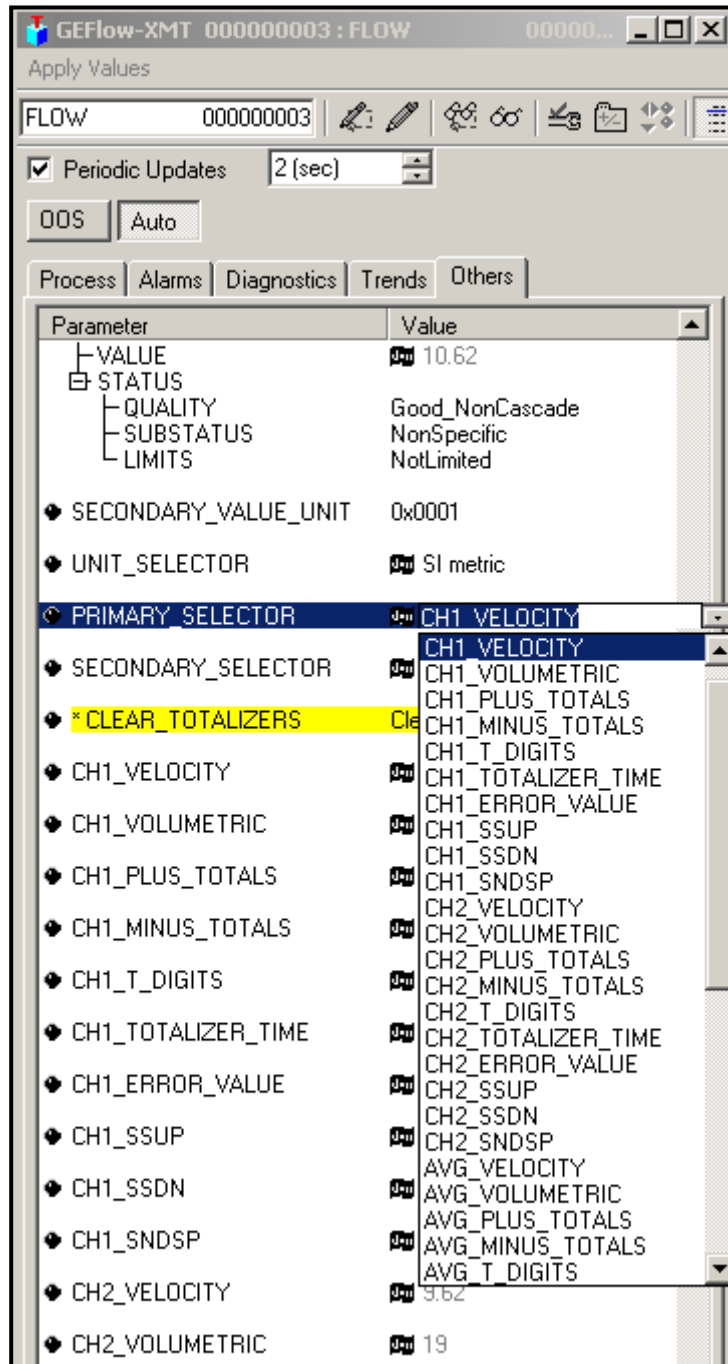

Figure 40: Primary Selector Drop Down List
2. Select the **Others** tab and open the drop down list for the PRIMARY_SELECTOR and SECONDARY_SELECTOR (see Figure 40 on page 107).
3. Choose the unit from the list (see Figure 40 on page 107).